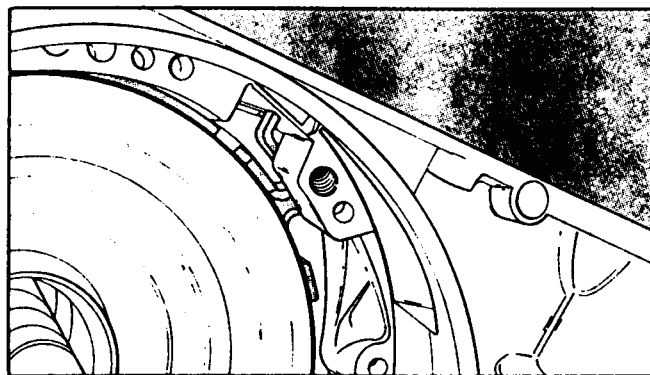

Figure 135
3. Line up the anchor pin hole in the band with the hole in the case, and the clip end of the band as shown in Figure 135.